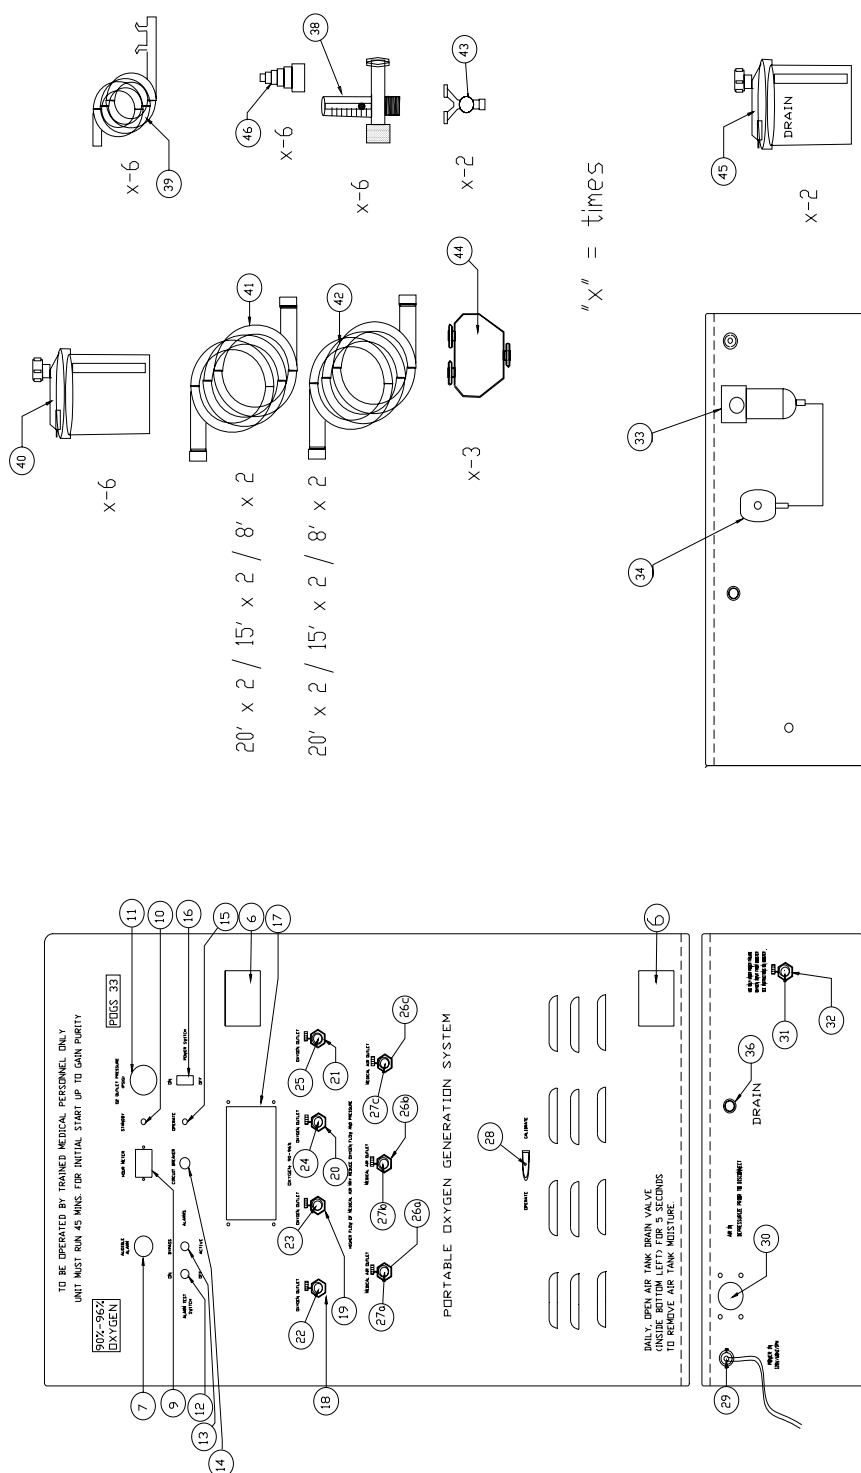
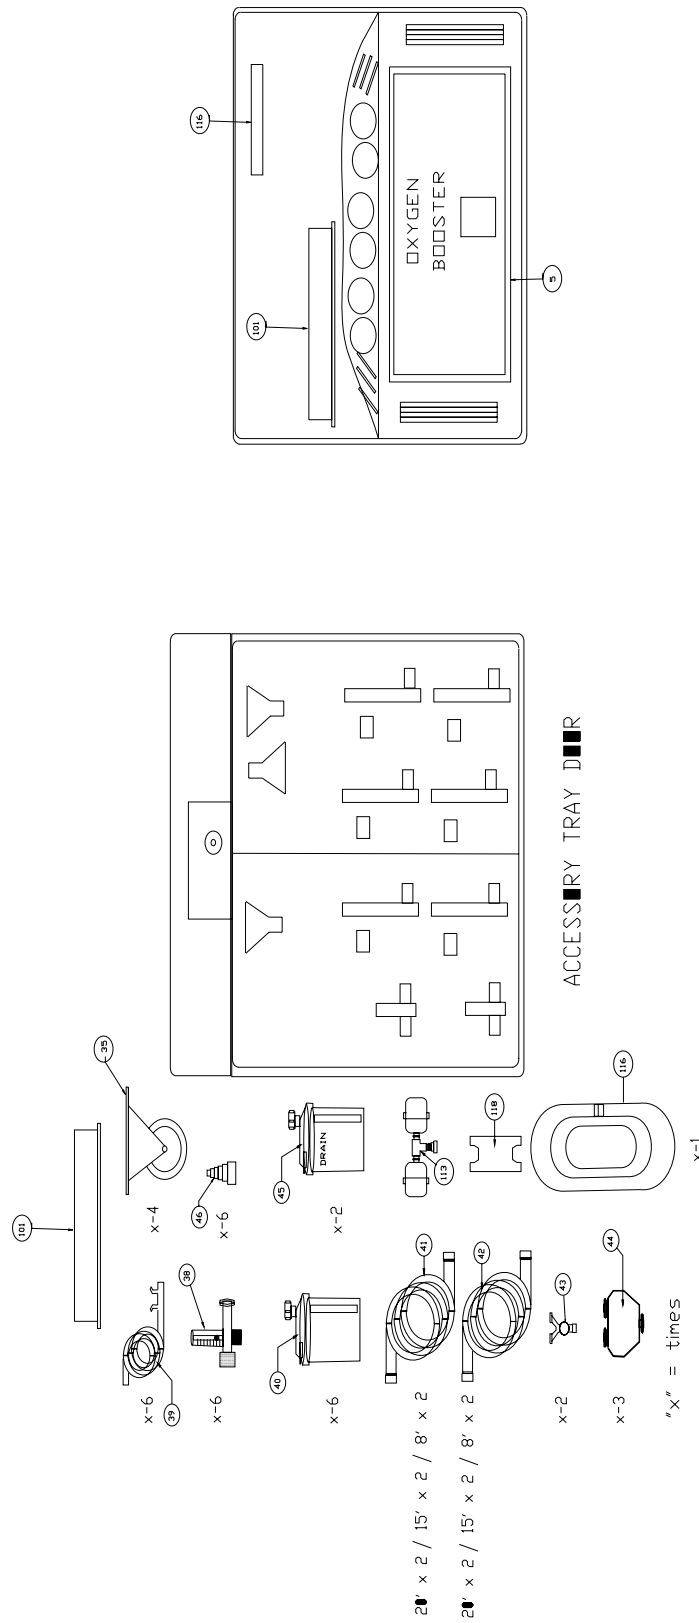

Figure 2
Figure 4
7.2.8 Generator Control Panel (Fig 2)
7.2.9 Generator Accessories (Fig. 2/Fig.4)
(Fig. 2)
7.2.11 Generator Accessory Storage within Exterior Cover (Fig. 4)
(Fig. 4)